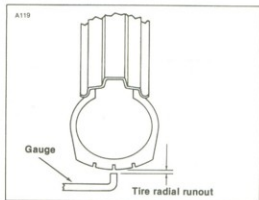

Figure 2-39. Checking Tire Radial Runout
1. Check runout by turning wheel on axle, measuring tread runout (see Figure 2-39).